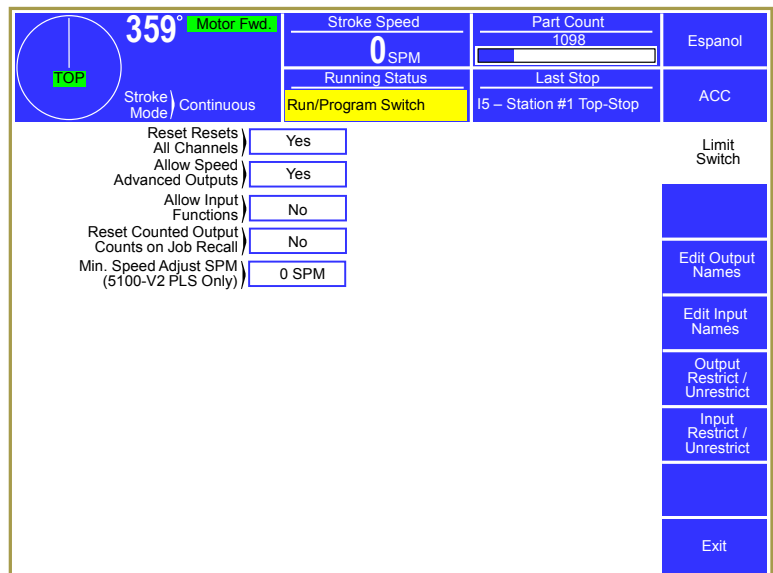
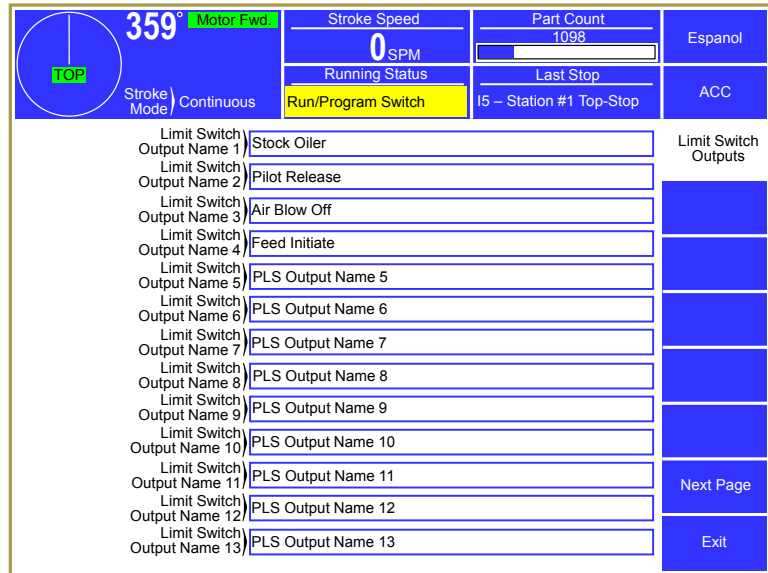
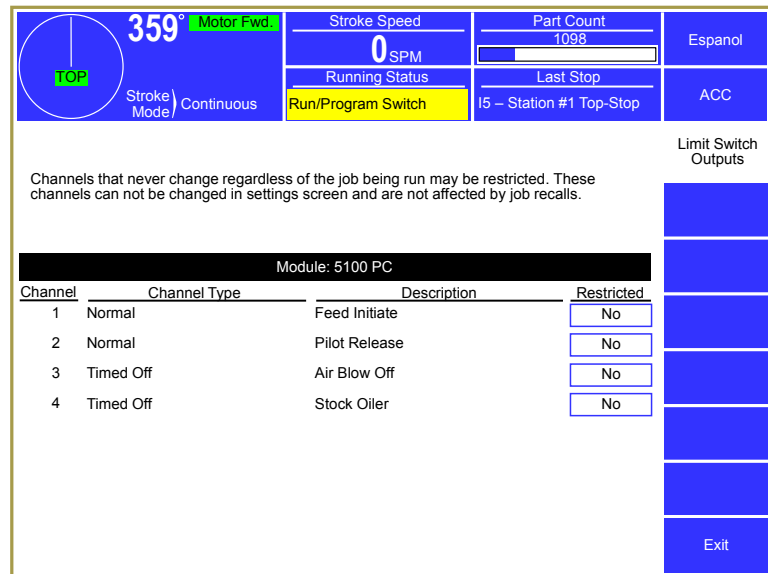

Figure 79: PLS Configuration Main Screen
Figure 80: PLS Edit Names Screen
Figure 81: PLS Restrict/Unrestrict Screen
- After the code is entered correctly, the screen of Figure 79 will be displayed.
Press the **Edit Names** softkey (shown in Figure 79) to display the screen of Figure 80. Use the **Previous Page** and **Next Page** softkeys to page through the entire list of names. Touch inside the blue border of a name to change it.
Press the **Restrict / Unrestrict** softkey (shown in Figure 79) to display the screen of Figure 81. Use the **Previous Page** and **Next Page** softkeys, if displayed, to page through the channels.